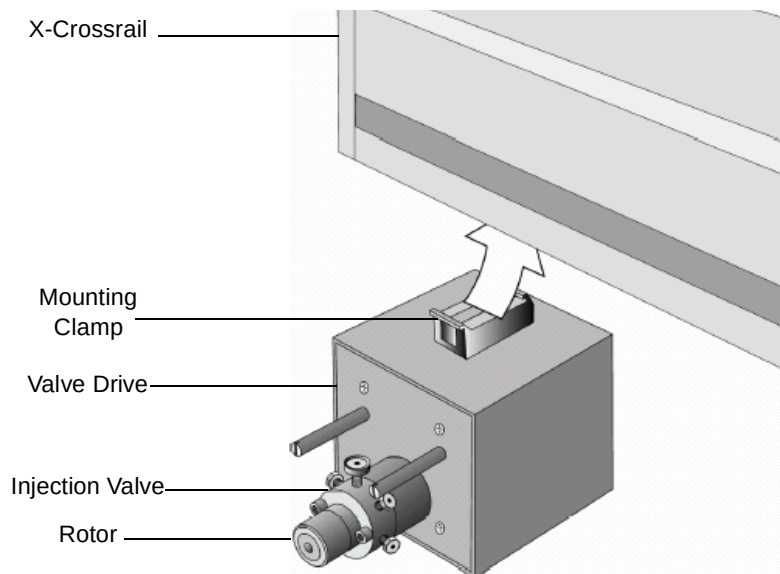

Figure 2-15 Installing the Single Injection Valve
1. Place the blue injection valve drive under the X-crossrail (Figure 2-15).